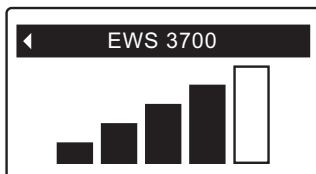

FIG. 54
Begin by checking the signal strength between the conditioner/refiner and the remote. If the signal is weak (2 bars or less on the display shown in Figure 54), move the remote to a different location to try improving the signal strength.
4. Press the SELECT (○) button, and the screen shown in Figure 54 will appear. The more bars that are filled in black, the stronger the signal. The signal strength display updates every 15 seconds.